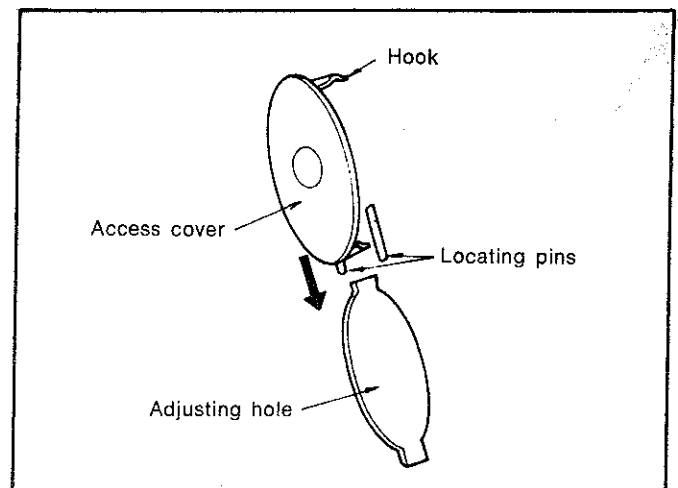

Fig. 89—Installing access covers
(7) Install the two access covers to their respective adjusting holes. The cover can easily be installed by sliding the cover with its hook placed between the locating pins (Fig. 89), refit the fan belt.
(8) Replace timing belt front upper cover.